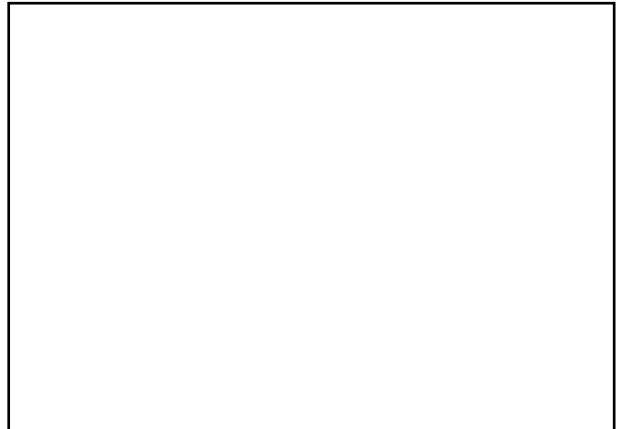

Fig. 6
- Insert new filter cartridge (4, Fig. 6) carefully into the hydraulic reservoir (Fig. 6). Check gas-ket (6) and spring (5) of cap (3) for damage and replace, if necessary. Put cap (3) back in place and tighten.